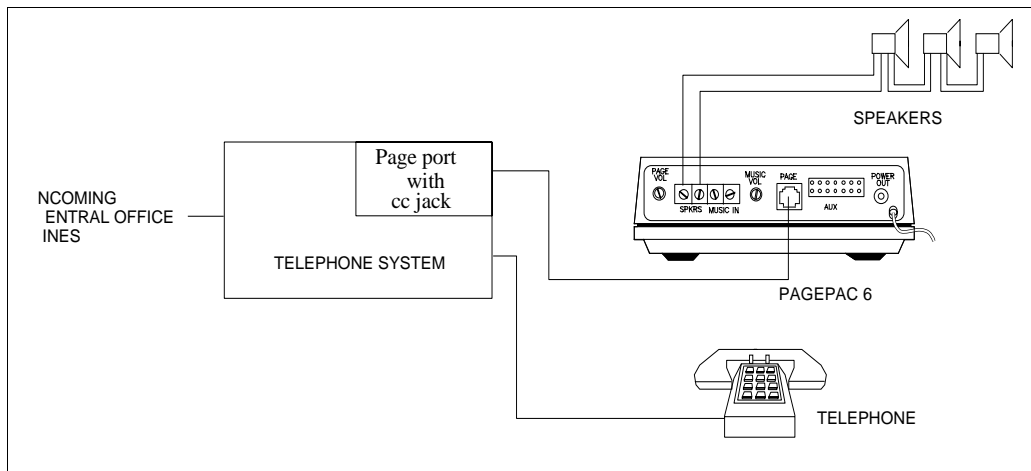

Figure 1. PagePac® 6 Connections to Telephone System Equipped with Page Port and a Contact Closure
- For telephone systems equipped with a page port that has a contact closure, the PagePac 6 connects directly to the page port (see Figure 1).